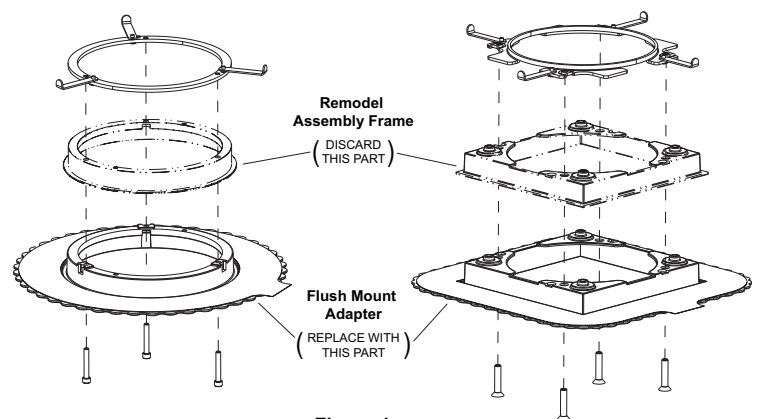

Figure 1
Step 3. Swap the remodel assembly frame with flangeless adapter per Figure 1.